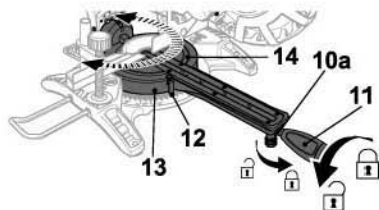

Fig. 16
2. Loosen the turntable locking handle (11).
3. Rotate the turntable (14) until the pointer (12) aligns with the desired angle on the mitre scale (13) (Fig. 16).
4. Tighten the turntable locking handle (11).